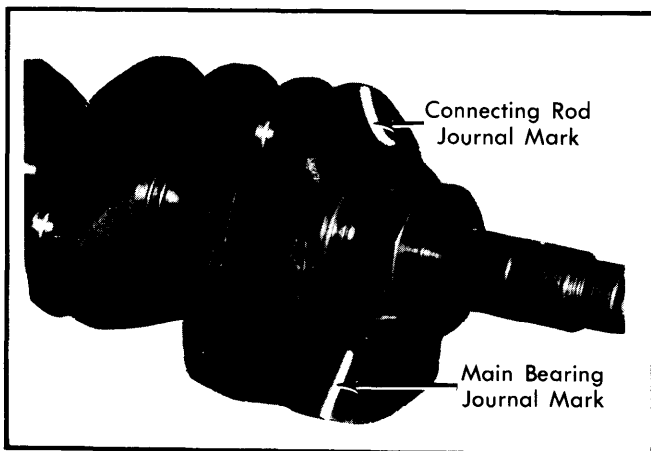

**Fig. 11 Crankshaft Color Code Markings**
3) Main bearing journals are manufactured in 2 standard sizes. Sizes are designated by a colored dot on crankshaft balance weight next to individual journal. See Fig. 11.